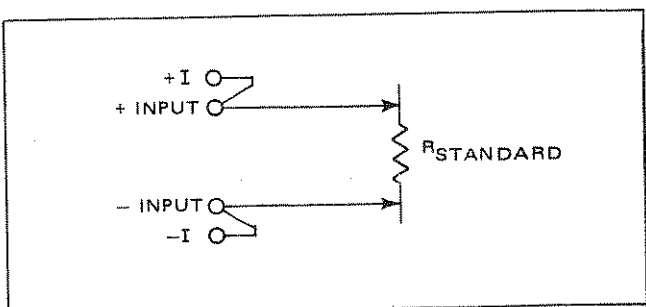

Figure 5.6 - Connections for Ohms Range Adjustment
a. Connect standard resistors to the input in the order listed in the following table. Select range as listed for each step and adjust the indicated control for a readout equal to the standard resistor value. Connect as shown in figure 5.6.